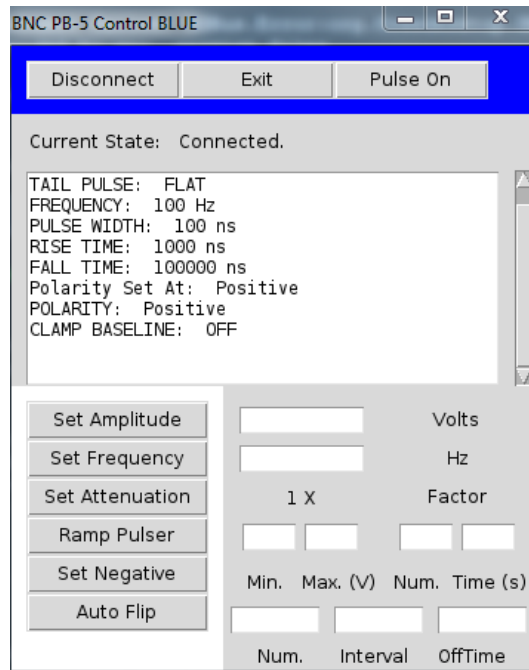

Figure 5: Pulser control window.
4. To run a ramp, input a Min and Max voltage, number of steps (this has to be odd number) and the time running for each voltage. The pulser control window is displayed in Fig. 5